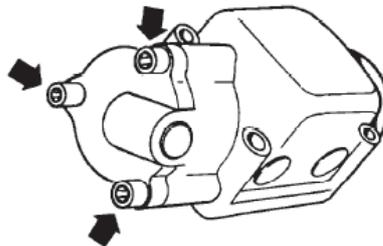

Figure 10 Air Inlet Cover Retaining Bolts
- a. Remove the three socket-head bolts from the air inlet cover (Figure 10) and remove the cover.